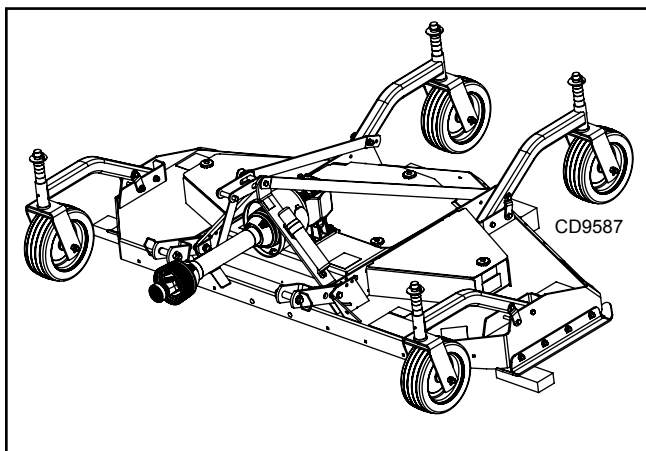

Figure 17B. Mower Storage Position - Free Link
4. Disconnect lower 3-point hitches from tractor. Carefully drive tractor away from mower. See Figure 17B.